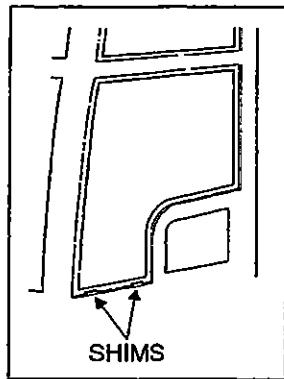

Figure 36 18079
**Note:** *Use small shims to raise the glass in proper position. Shims can be cut from the tremshield tape. See figure 36.*